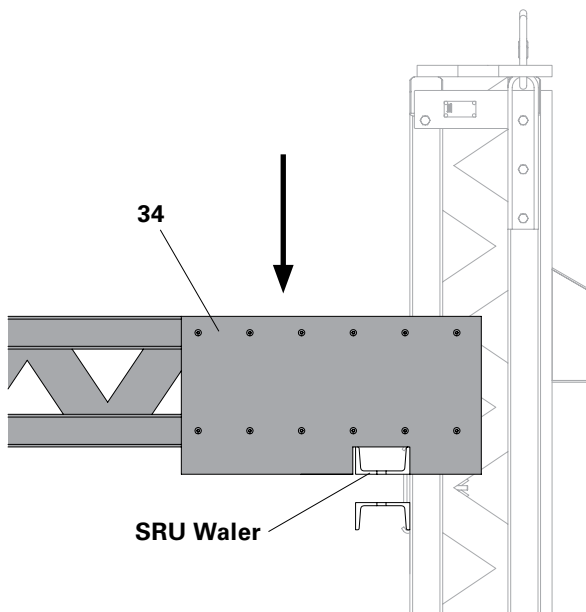

Fig. C1.07
2. Attach the Distance Device (34) on both sides in the top SRU Walers of the internal formwork.
3. Connect the anchorage and internal formwork to the external formwork. (Fig. C1.07)